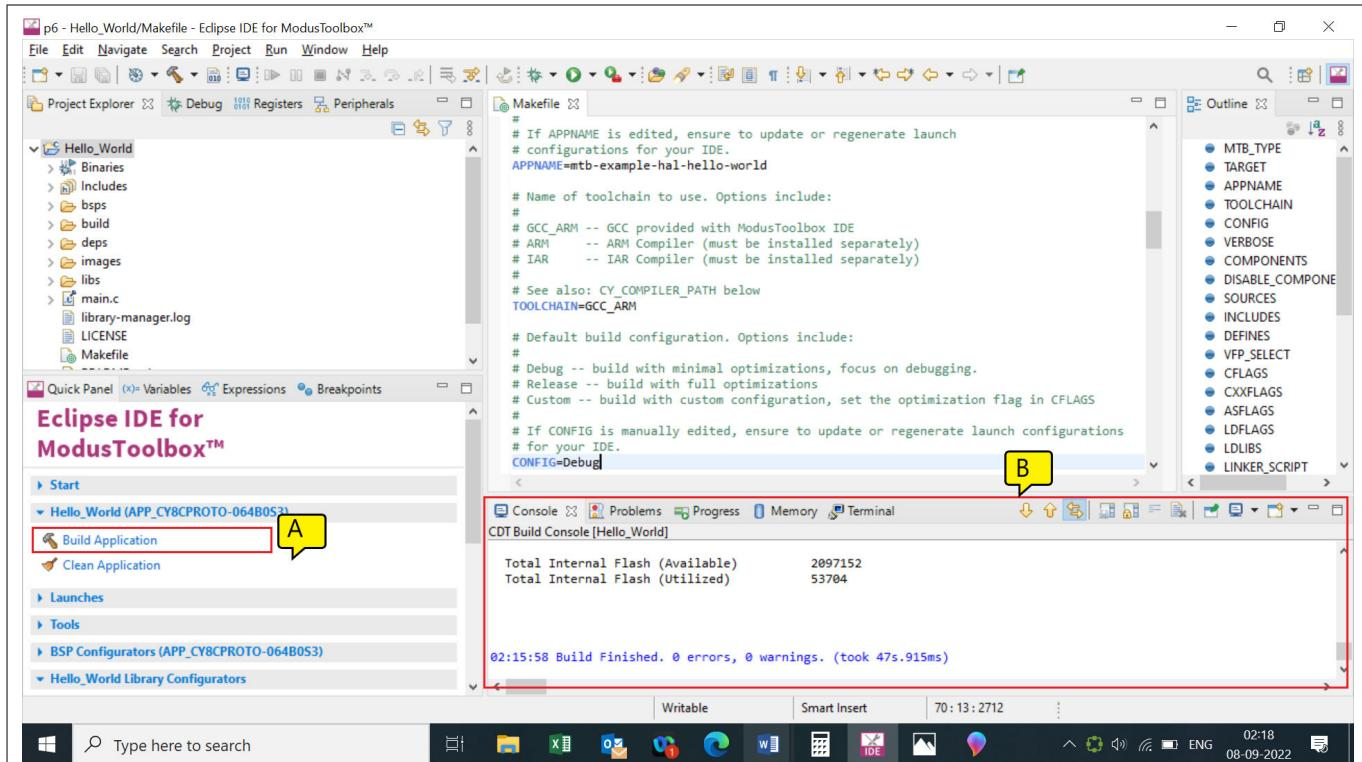

Figure 21 Build the application
3. The **Console view** lists the results of the build operation, as Figure 21 shows.